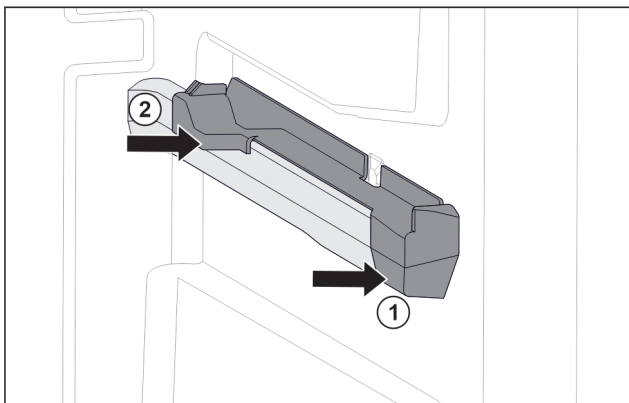

Fig. 85 Attachment on the right moulded rib
- Position attachment on moulded rib at the front. Fig. 85 (1)
- Press on attachment at the back. Fig. 85 (2)